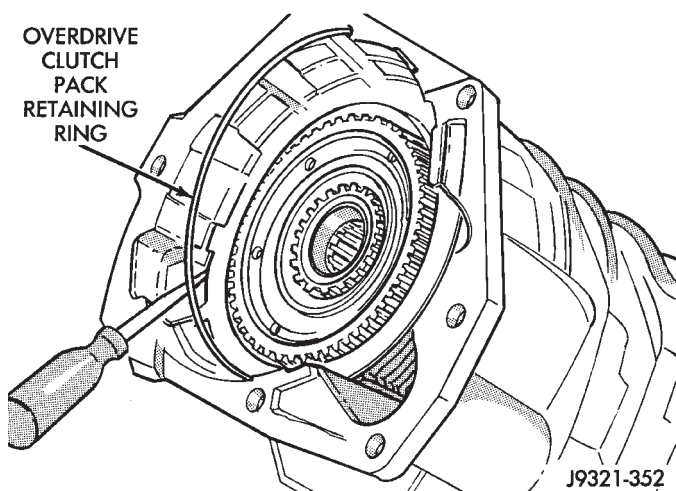

Fig. 237 Overdrive Clutch Pack Retaining Ring Installation
- (4) Install overdrive clutch reaction plate first.
- (5) Install first clutch disc followed by first clutch plate. Then install remaining clutch discs and plates in same order.
- (6) Install clutch pack pressure plate.
- (7) Install clutch pack wire-type retaining ring (Fig. 237).